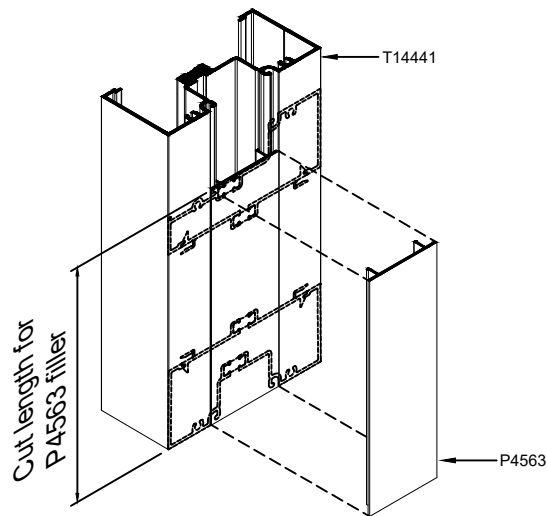

Fig.34.1
- A. Pre-attach P4563 pocket filler into the pocket of the vertical mullion and closure pocket members. Cut length of the filler can be determined by measuring from the bottom of the vertical mullion/closure pocket to the underside of the water diverter at the high sidelite base. **SEE Fig. 34.1**